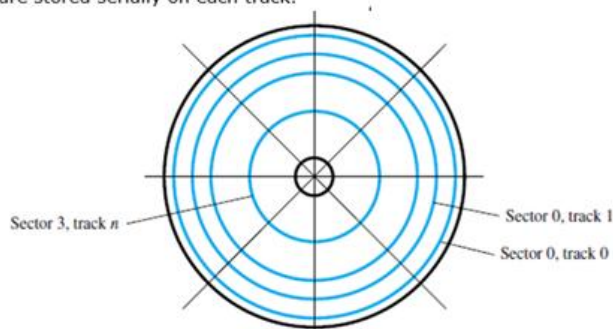

Figure 8.28 Organization of one surface of a disk.
- Each surface is divided into concentric **Tracks** (Figure 8.28).